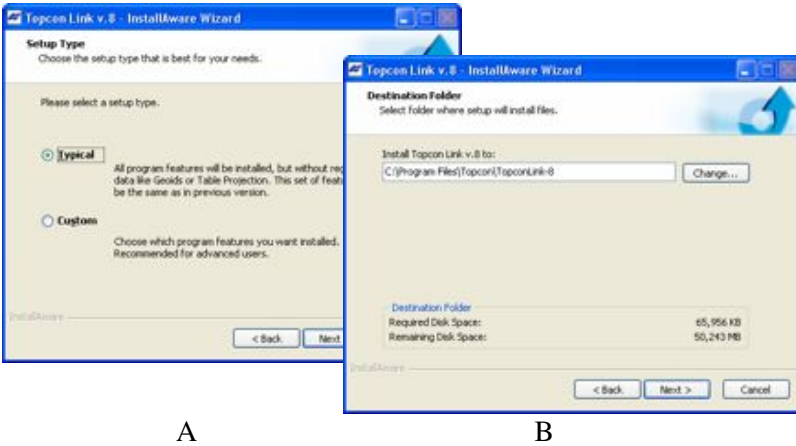

Figure 1-2. Typical Setup Type
- display the next installation dialog (Figure 1-2)
3. Either keep the default installation folder or click **Browse** to select a different folder in which to install the Topcon Link. Click **Next** to continue (Figure 1-2 on page 1-4, picture B)).